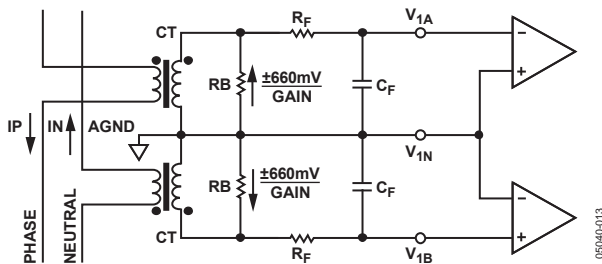

Figure 15. Typical Connection for Channel 1
Figure 15 shows a typical connection diagram for Channel V1. The analog inputs are used to monitor both the phase and neutral currents. Because of the large potential difference between the phase and neutral, two current transformers (CTs) must be used to provide the isolation. Note that both CTs are referenced to analog ground (AGND); therefore, the common-mode voltage is 0 V. The CT turns ratio and burden resistor (RB) are selected to give a peak differential voltage of ± 660 mV/gain.